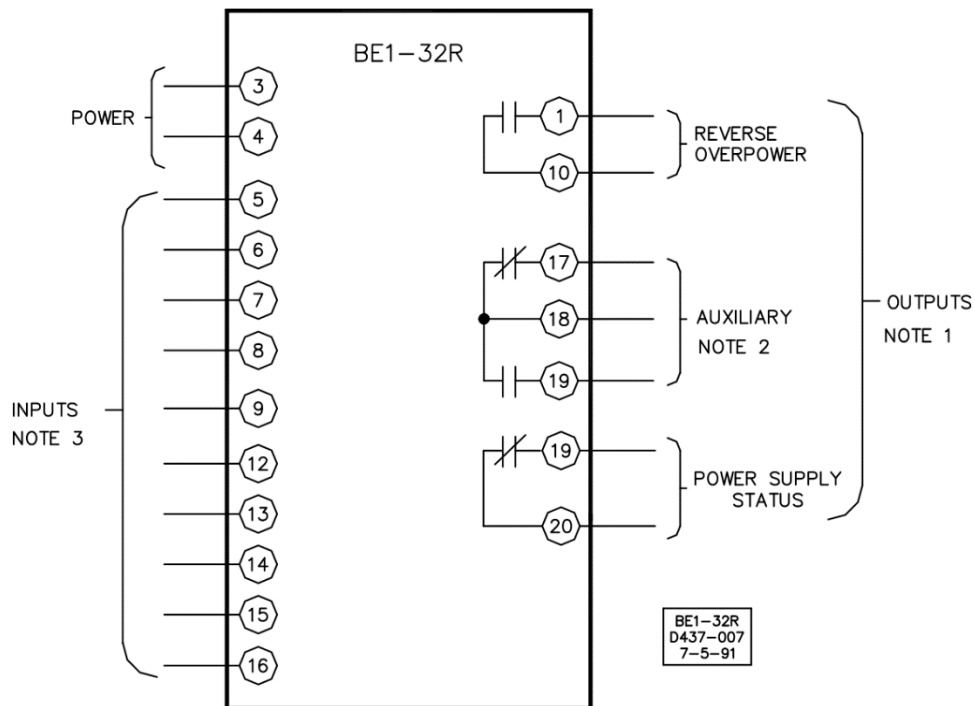

Figure 4-25. BE1-32R Typical External Connections
- Typical external connections: Figures 4-25 and 4-26
Notes for Figures 4-25 and 4-26